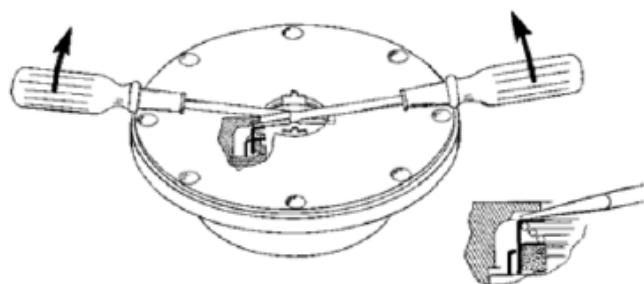

Figure 5 – Mechanical Seal Removal
5. Remove the outboard bearing cover capscrews (28) and the outboard bearing cover (27) and bearing cover gasket (26). Discard the bearing cover gasket.
7. Remove the head capscrews (21). Gently pry the head away from the cylinder.
8. Slide the head off the shaft. The head O-ring (72), bearing (24), and mechanical seal (153) will come off with the head assembly. Remove and discard the head O-ring.
- a. Pull the bearing (24) from the housing in the head.
- b. To remove the mechanical seal, use two screw drivers against the backside of the seal jacket to gently push the seal from the head (see Figure 5). Use care when placing the screw drivers to prevent damage to the seal faces. Remove and discard the seal O-rings.
9. Pull the rotor and shaft (13) from the cylinder. While one hand is pulling the shaft, the other hand should be cupped underneath the rotor to prevent the vanes (14) and push rods (77) from falling out. Carefully set the rotor and shaft aside for future vane replacement and reassembly.